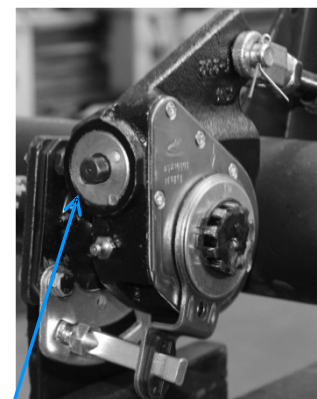

Fig 4.
4. With the brakes released, use a socket wrench to rotate the manual adjuster nut clockwise (fig 4) until the clevis hole lines up with the slack adjuster hole. Then put the split pin in to secure the clevis in place (fig 4).